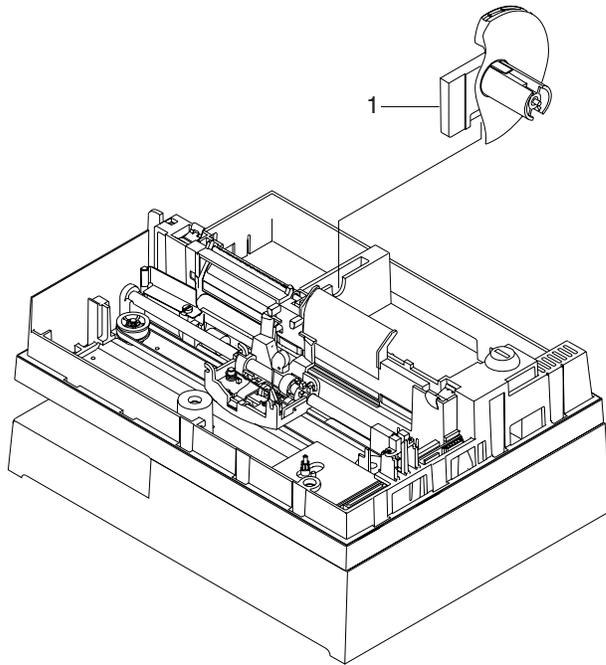

Figure 5-19. Journal Paper Spool and Clutch. For illustration, the top cover has been removed. Removal of the cover is not necessary for this procedure.
- 1 Put the paper spool and clutch assembly (1) into the slot shown in Figure 5-19 on page 5-25.